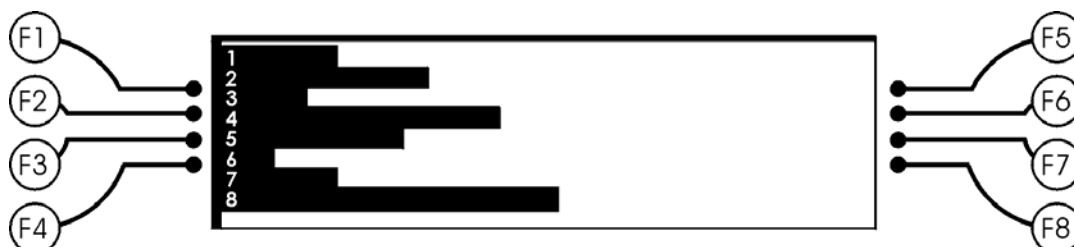

Figure 7.3. Display inputs bar
- F3 Pressing key F3 displays a bar diagram representing the eight input values. A full bar corresponds with an input of full span. Figure 7.3 gives an example.